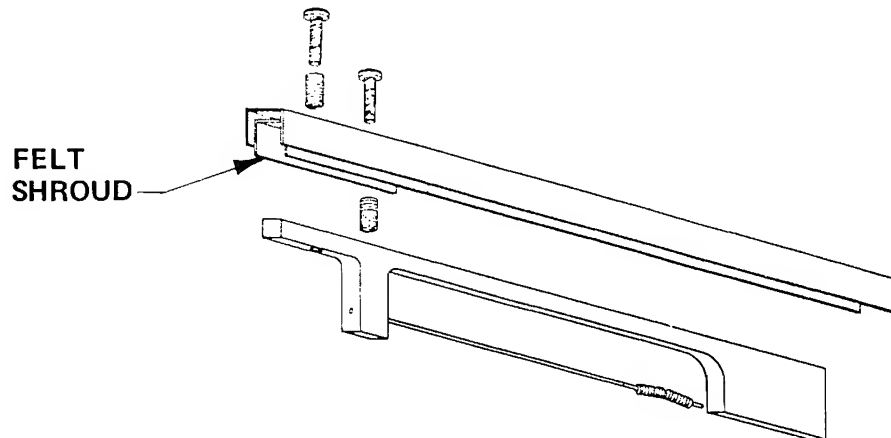
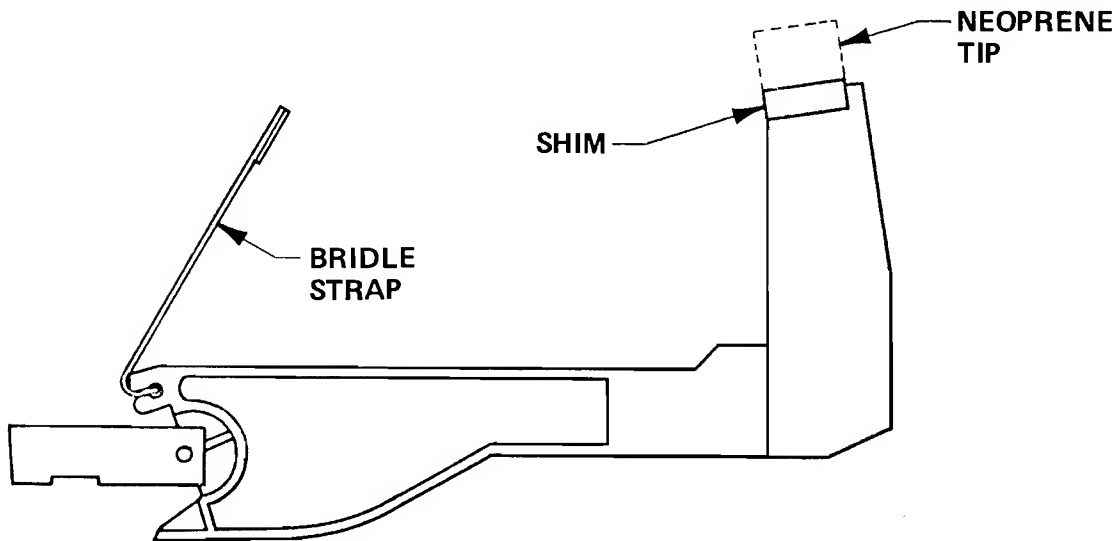

Figure 7-1. RHODES First Stage Tone Bar Assembly
Figure 9-3. RHODES Hammer — Shim Placement
1. In the original Piano, the Tone Bar Assembly (tuning fork) was a single piece of cast iron which was suspended in a metal channel. The bottom leg was a length of piano wire of a diameter of .075” (1.905mm) (Figure 7-1).
- (1) Remove all Damper Shoes by sliding forward (Figure 7-1).
- (2) Unscrew Flange Screw and remove Hammer by sliding Bridle Strap out over Damper Arm.
- (3) Mount the new Hammer Assembly by sliding the new Bridle Strap over the Damper Arm then by securing the Assembly with the Flange Screw.
- (4) Slide all Damper Shoes back into place.
- (5) Create a 1/8" x 3/8" x 3/8" (3.175mm x 9.525mm x 9.525mm) shim and glue into place on the Hammer Head as shown in Figure 9-3. This is necessary in order to bring the Hammer Tip up to the full height of the one replaced.